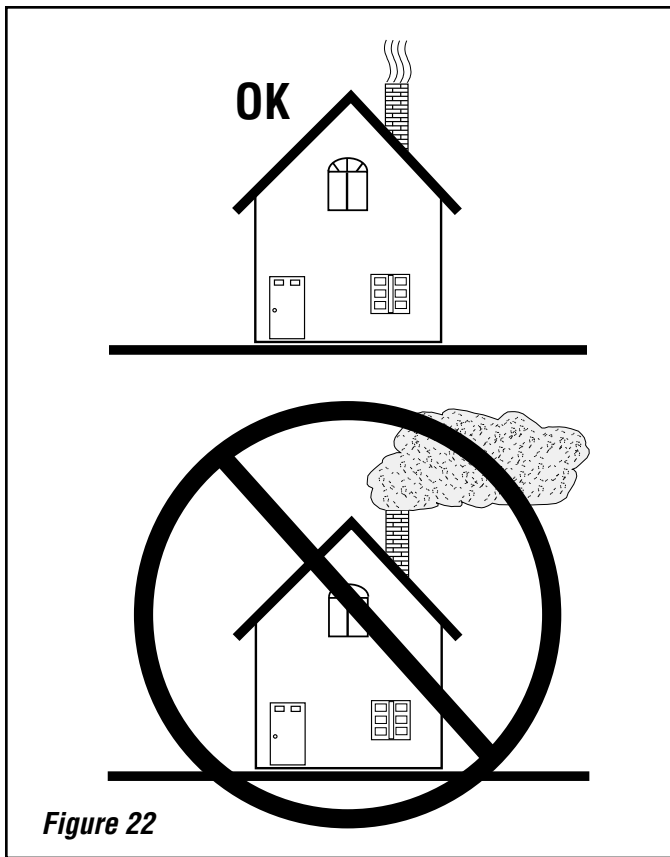

Figure 22
7. For best results, use smaller pieces of wood to get the appliance temperature very high before loading larger wood for sustained burns. If necessary, crack the door to allow ignition of the fuel charge. Now you can add larger pieces of wood and after several minutes of high burn, set the left control for the desired heat output. Check the exhaust in about 15 to 20 minutes (*see Figure 22*). Large amounts of smoke indicate an improper burn setting (either too high or too low). Adjust and recheck in 5 to 10 minutes.
6. Go outside and check your chimney. More than a very small amount of smoke indicates wasted heat, creosote build up and pollution (*see Figure 22*).